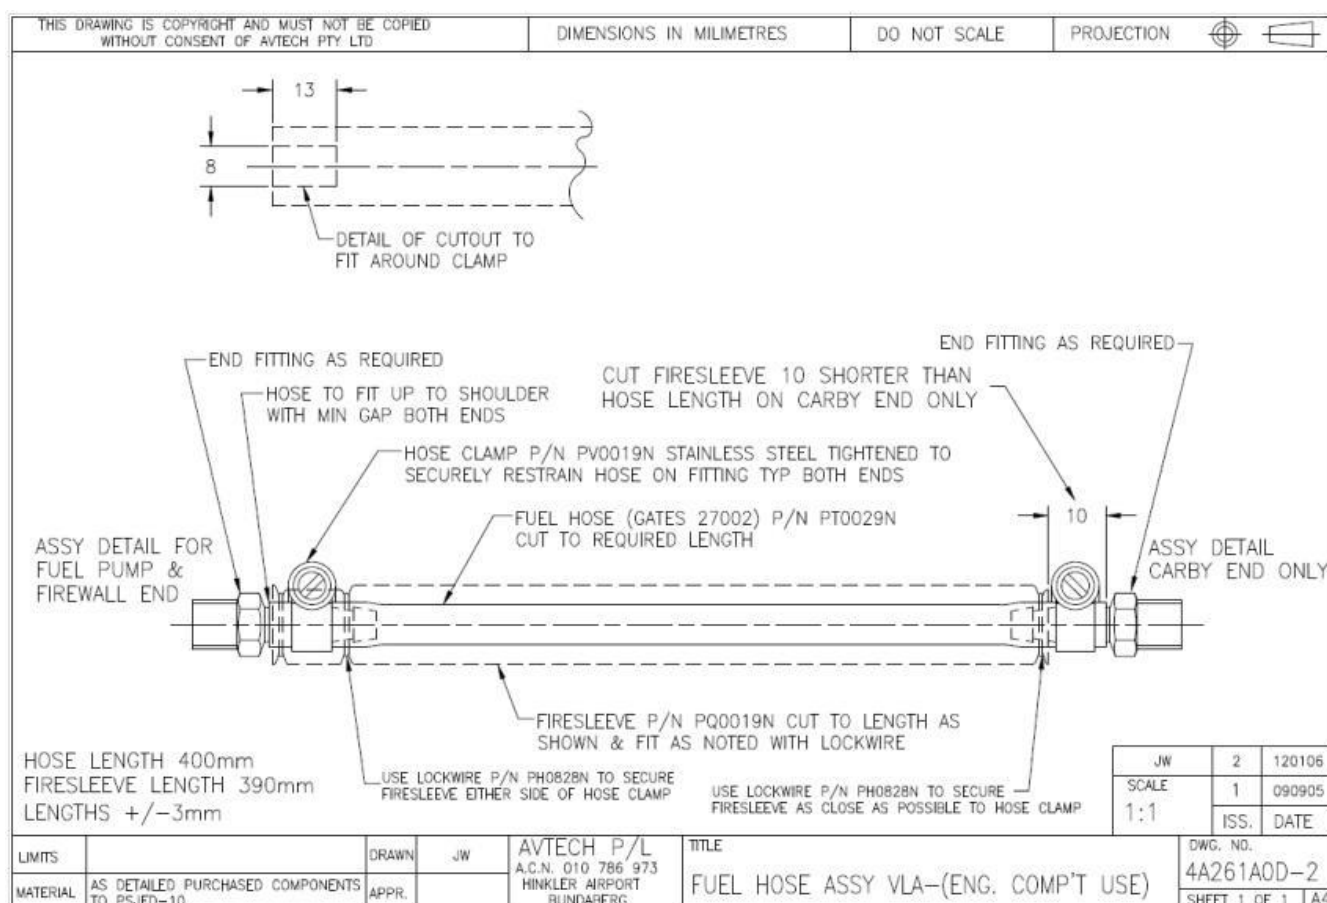

Figure 36 – Fuel Hose Assembly – Engine Bay
- Fire sleeves: Check for wear and correct fitment per Figure 36. Note the fire sleeve overlapping the hose clamps and reaching to the end of the fuel hose.